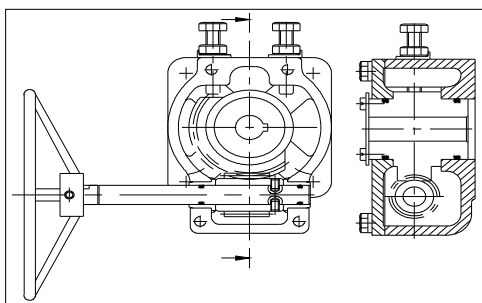

Fig 4.1: Details of gear operator.
- 6.2 For gear operated valves, THE GEAR OPERATOR OPEN / CLOSE ADJUSTMENT HAS BEEN DONE PRIOR TO SHIPMENT AND MUST NOT BE CHANGED. Rotation of hand wheel in the clockwise direction closes the valve and counter clockwise rotation opens it. (Looking from hand wheel end) The details of gear operator are shown in the fig. 4.1. The internal details/construction of gear operator may vary as per manufacturer's standard.